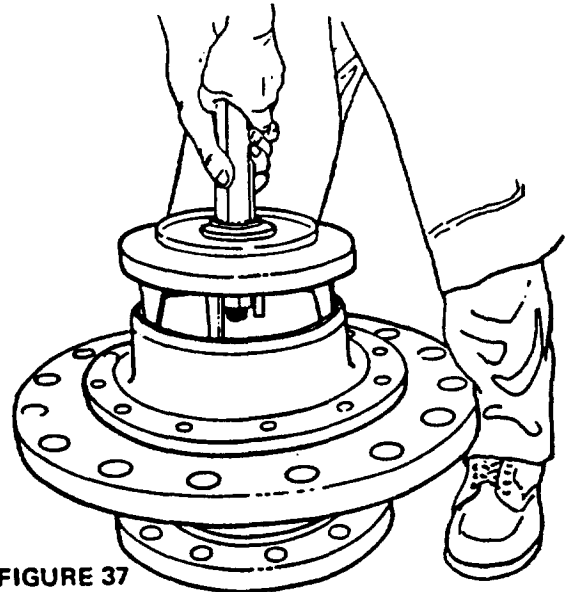

FIGURE 37
- h. Lift the disc holder assembly away from the seat (11) (Fig. 37).